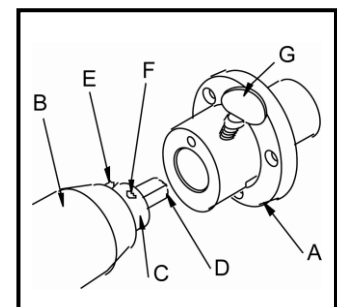

Figure 8
The ranges of attachments that can be operated from the Attachment Hub are listed below. When using an attachment, lubricate the **Drive Stud (D)** using a food quality grease or oil. To fix to the mixer refer to **Figure 8**. Release the **Thumbscrew (G)** and slide the shaft of the attachment into the hub ensuring that the **Drive Stud (D)** engages in the socket within the hub. Rotate the attachment to line up the **Location Peg (E)** with its mating hole in the hub and push firmly home. Tighten thumbscrew to secure.